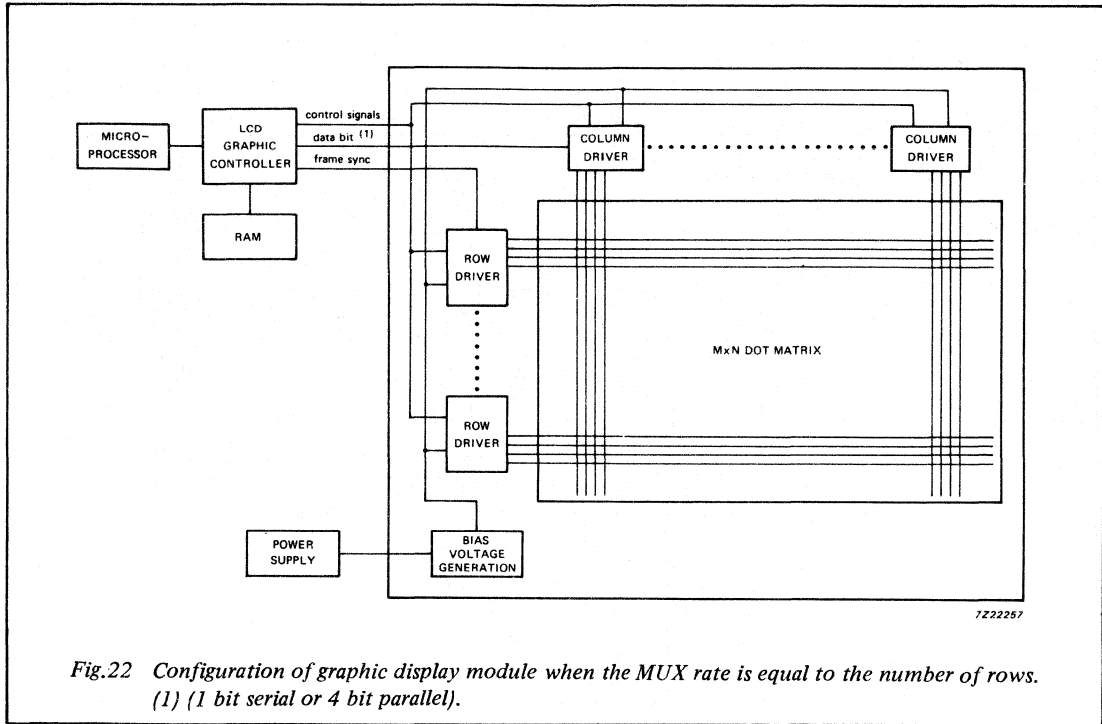

Fig.22 Configuration of graphic display module when the MUX rate is equal to the number of rows. (1) (1 bit serial or 4 bit parallel).
- a) Module with a MUX rate equal to the number of rows (Fig.22)